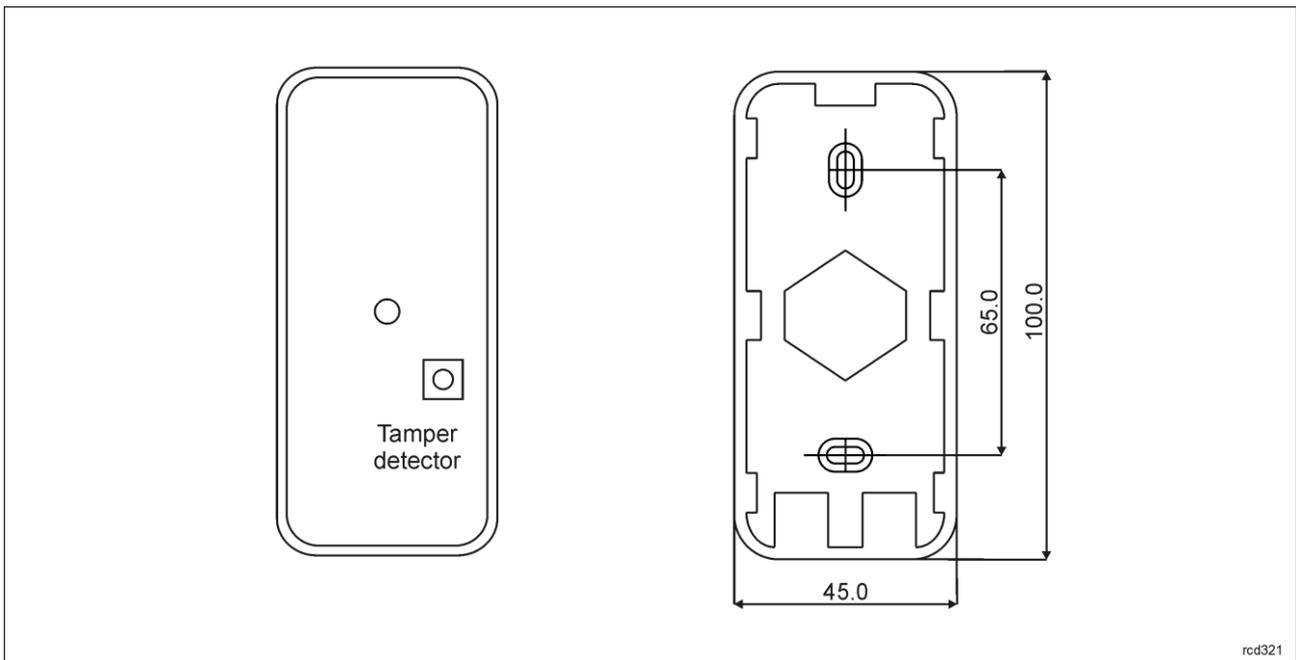

Fig. 6 Internal side of the front panel and back panel
Built-in tamper (sabotage) detector enables detection of unauthorized opening of device's enclosure as well as detachment of the enclosure from wall. The detector is internally connected to the terminal's input. It does not require low level configuration (RogerVDM) or any additional installation arrangements but it is essential to mount front panel in such way as the tamper detector would firmly press the back panel. (fig.6). The detector requires high level configuration which consists in assignment of the function [133] *Tamper Toggle* on the level of a *Main Board* of a controller in VISO software navigation tree.
- The back panel should be mounted with included screws according to fig. 6 and front panel should be attached in such way as the tamper detector would firmly press the back panel.